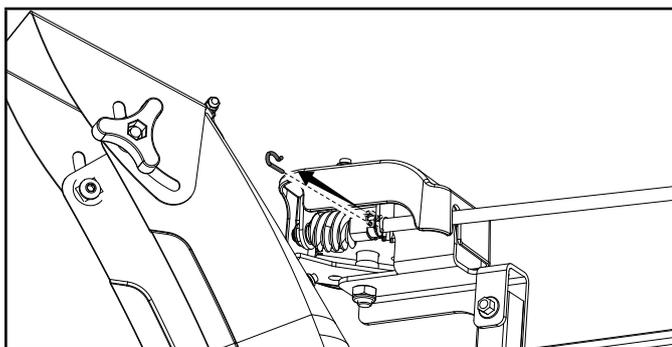

Figure 39
2. Retirez la goupille R. (figure 39)